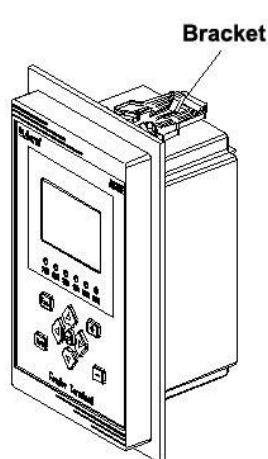

Fig 4.3
- 2.Place the relay into the cutout, as shown in Figure 4.3, until the front panel of the relay rests against the cabinet panel.